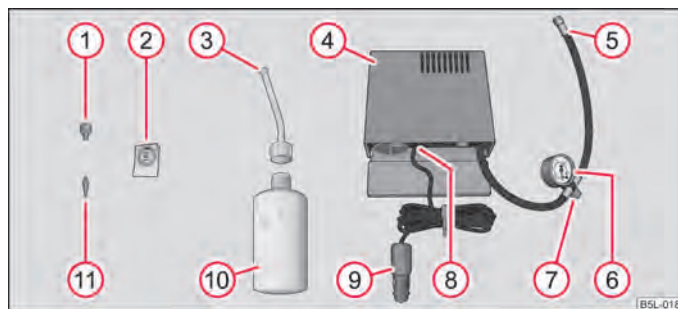

Fig. 172 Components of the tyre repair kit
- Stick the sticker **(2)** → fig. 172 on the dash panel in view of the driver.
- Forcefully shake the tyre inflator bottle **(10)** → fig. 172 several times.
- Screw the tyre inflation hose **(5)** → fig. 172 of the air compressor firmly onto the tyre valve.